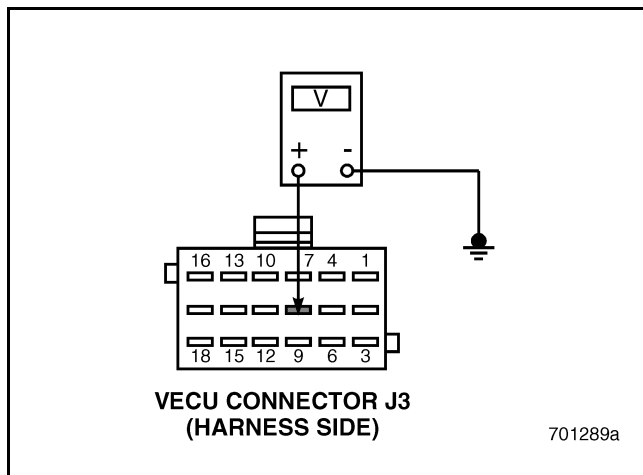

Figure 575
4. Measure the voltage between VECU connector J3 pin 8 and a good ground (see Figure 575).